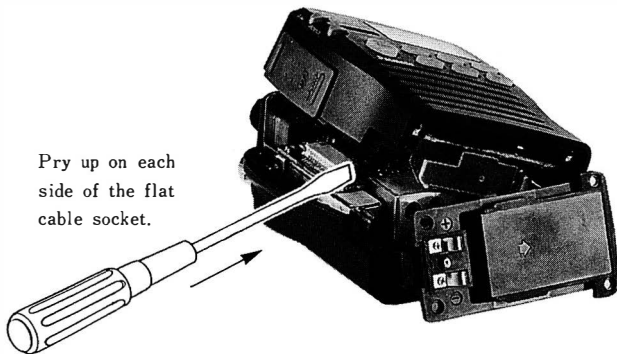

Fig. 3
- ❑ Using a small screwdriver and referring to Figure 3, pry up on each side of the flat cable socket